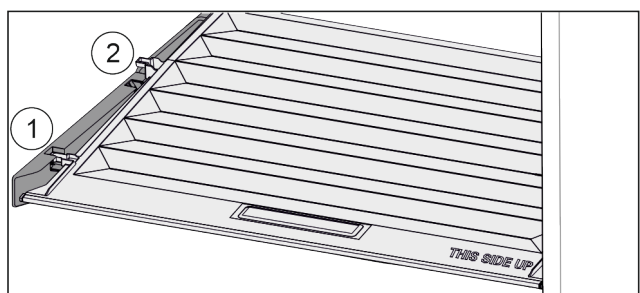

Fig. 114
- ▶ Pull the lid up at the front to the opening in the retaining parts *Fig. 114 (1)*.
- ▶ Lift from the back and pull it up and out *Fig. 114 (2)*.